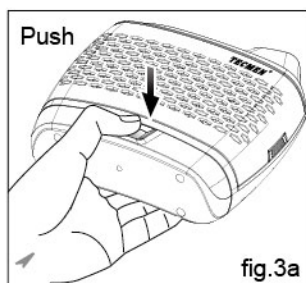

fig.3a
**How to disassemble the battery:** Push the button, take the battery out as fig.3a/3b/3c shown direction. Separate it from the body.